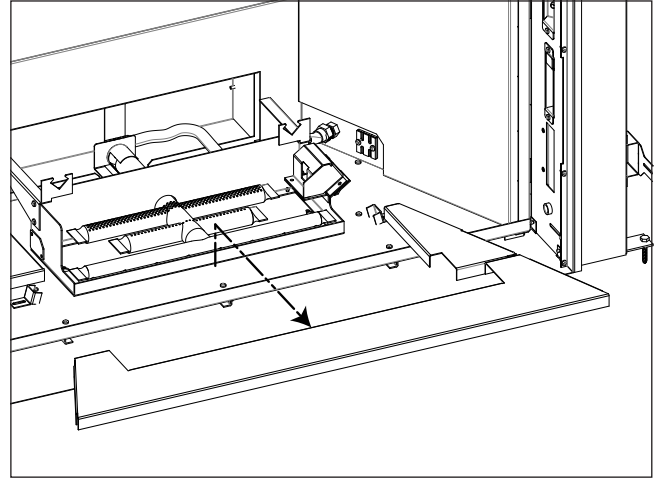

Figure 21: Front Steel Liner Removal
5. Remove the front steel liner (see Figure 21).